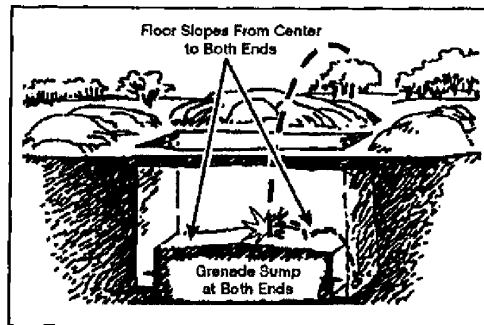

Figure 071-326-5703-7. Two trench-shaped grenade sumps
- (1) Place one at each end of the position.
- (2) Make the trenches as wide as an entrenching tool blade, as deep as the entrenching tool, and as long as the position is wide.
- j. Slope the floor toward the sumps (figure 071-326-5703-7).